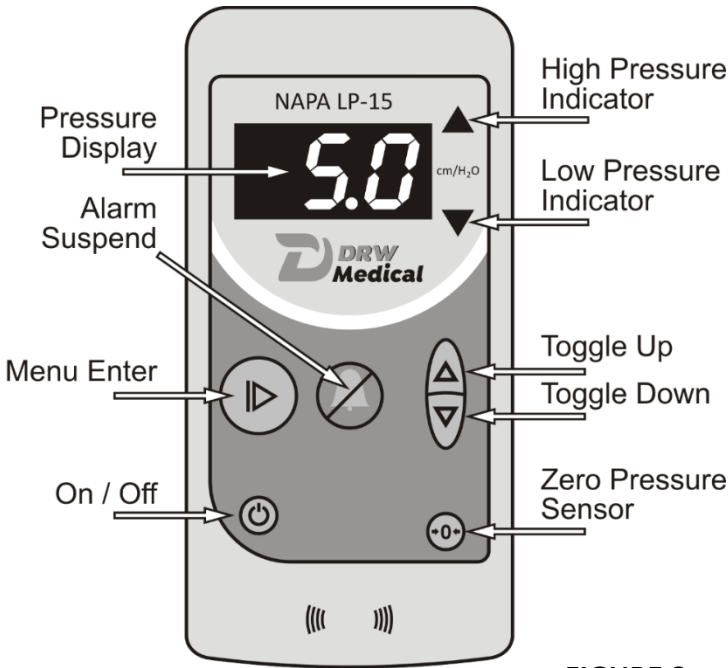

FIGURE 8
6.3 Normal Operation of the NAPA LP-15 Airway Pressure Monitor (FIGURE 8)